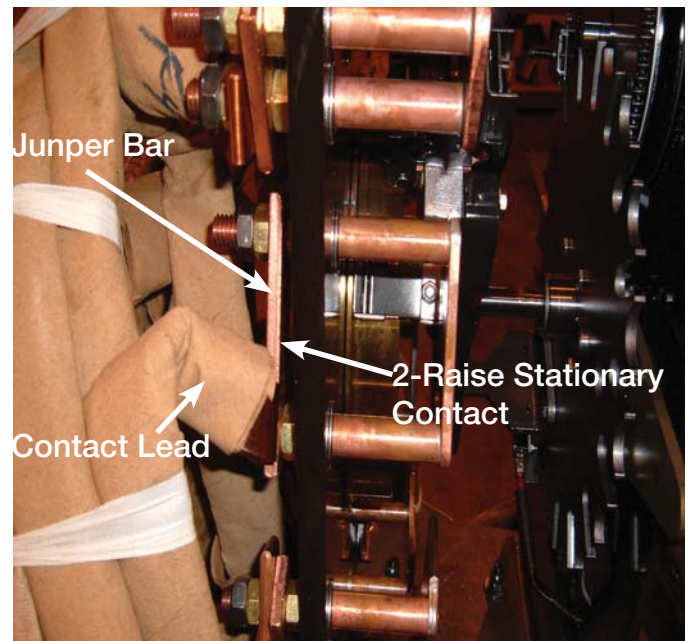

Figure 2.
6. Remove the nuts from the 2-raise stationary contact posts using a 3/4 inch deep well socket. Remove the 2-raise stationary contact lead and jumper bar from the 2-raise stationary contact posts. Remove the 2-raise stationary contact from the phenolic panel (refer to Figure 2). Save the nuts for re-assembly.